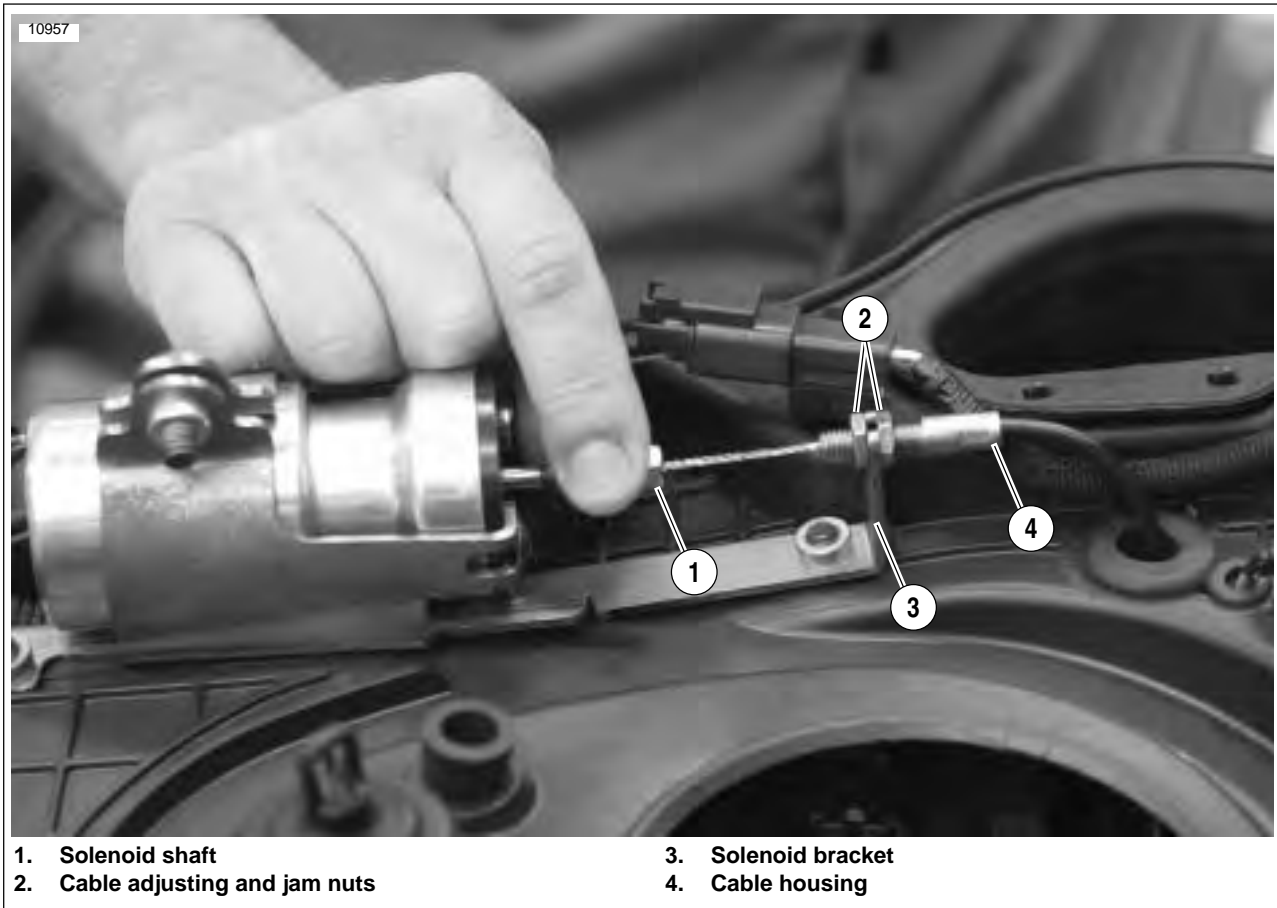

Figure E-1. Checking for Freeplay in the Solenoid Shaft in the Fully Retracted Position
2. See Figure E-1. Inspect for proper retraction freeplay in solenoid shaft:
- a. Open the throttle to the WOT position, push solenoid shaft (1) inward to the fully retracted position.
- c. If you have no travel in the shaft, adjust cable housing (4) away from the solenoid bracket (3) until freeplay is achieved.